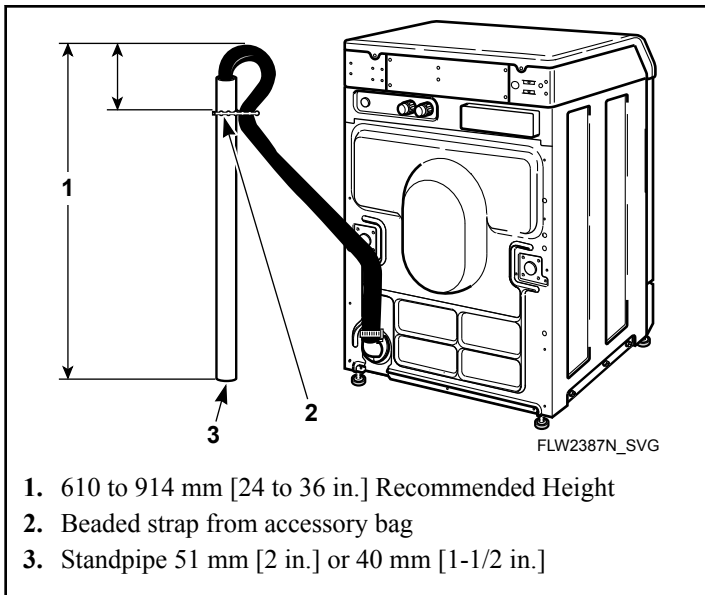

Figure 11
- Remove the beaded tie-down strap from accessories bag and place around standpipe and drain hose and tighten strap to hold hose to standpipe. Refer to *Figure 11*. This will prevent the drain hose from dislodging from drain receptacle during use.